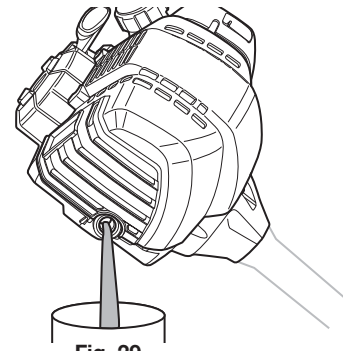

Fig. 29
3. Tip the unit vertically to pour the oil out of the oil fill hole and into a container (Fig. 29). Allow ample time for complete drainage.